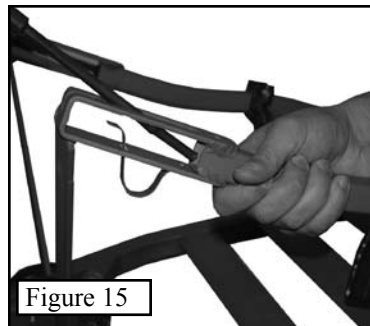

Figure 15
Step 2. Take one end of the cable around the tree and begin to slide it down into the tubing as shown in **Figure 15**.